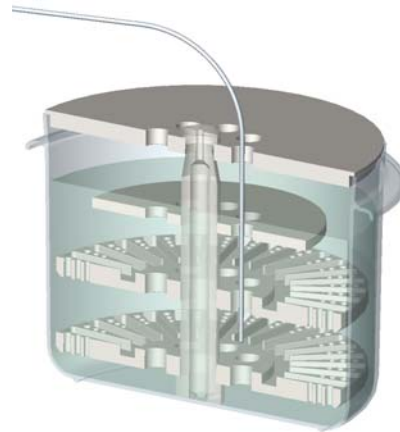

Fig. 1
**NOTE:** If the Teflon top lid is used, feed the tubing through the center hole in the lid before connecting to the reducing coupler (see *Fig 1* above), but if this cover is not used, make sure that the temperature probe is inserted through any of the holes in the top disc and well submerged into the paraffin, **not touching** any cassette, racks, or rack support.